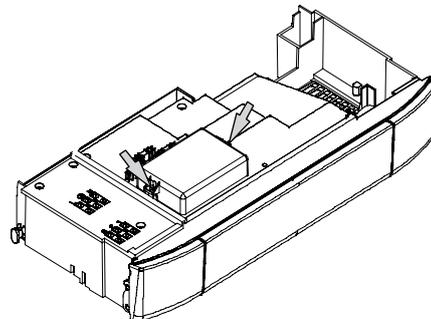

Figure 12.11
- Remove the two screws shown in Figure 12.11 and open the **external probe** connection terminal board.
Unscrew the screws and remove the terminal board cover (Figure 12.11).